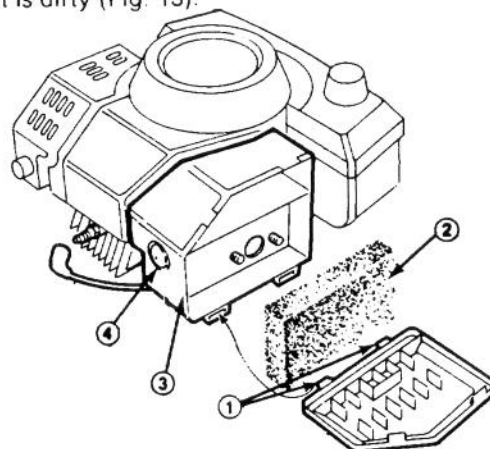

Figure 13
with thumb and push once (Fig. 13).
1. Lift tabs securing top of air cleaner cover and pivot cover down. Clean inside of cover if it is dirty (Fig. 13).
2. If air cleaner element is dirty, clean thoroughly (Fig. 13).